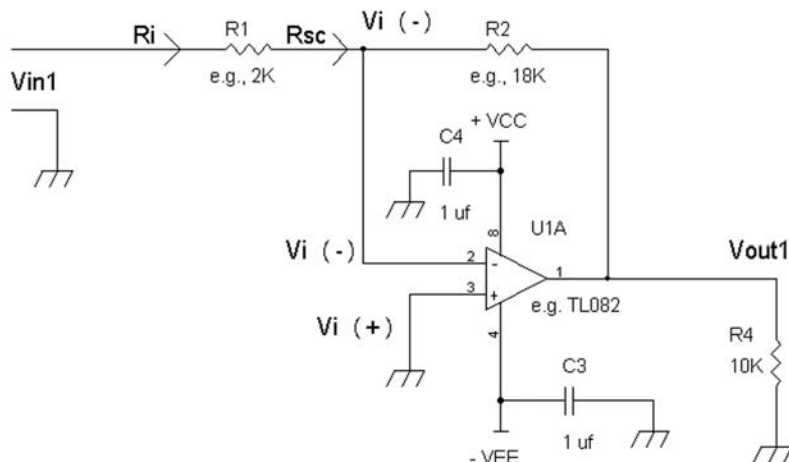

FIGURE 9-23 An inverting gain op amp circuit with plus and minus power supplies.
We now turn to inverting gain op amp circuits where they produce an inverted waveform at the output when compared to the input signal. See Figure 9-23.
An inverting gain op amp circuit also still relies on the voltage applied to the (+) input terminal that defines how the output signal will react to match the (–) input’s voltage to be the same as the (+) input’s voltage. For a simple example, let $R_1 = R_2$ in Figure 9-23. If $V_{in1} = +1$ volt DC, what voltage must V_{out1} be such that at the junction of R_1 and R_2 that is connected to the (–) input matches the voltage at the (+) input terminal? We see that the (+) input terminal is grounded or at 0 volts. R_1 and R_2 form a voltage summing circuit for V_{in1} and V_{out1} . If the resistors R_1 and R_2 are equal in value (e.g., $R_1 = R_2 = 2K\Omega$) and we have + 1 volt DC into R_1 via V_{in1} , it makes sense that the output voltage at V_{out1} should be – 1 volt DC. This way at the junction of R_1 and R_2 we will get 0 volts. The output terminal (e.g., pin 1) is adjusting its voltage such that when summed via R_2 , the voltage at pin 2, the (–) input terminal, is zero volts. This output voltage adjustment via R_2 provides the “virtual” short circuit voltage across the (–) input and (+) input terminals, with a voltage applied to input resistor R_1 .
In terms of the output resistance at V_{out1} , the op amp with the negative feedback resistor $R2$ has an output resistance close to zero ohms. The amplifier in Figure 9-23 amplifies DC and AC voltages at V_{in1} . For example, if $V_{in1} = 1.0$ v DC, then $V_{out1} = -(R2/R1) + 1$ volt DC. For example, if $R2 = 180\text{K}\Omega$ and $R1 = 20\text{K}\Omega$, the output voltage will be: $V_{out1} = -(180\text{K}/20\text{K}) \times 1$ volt DC or $V_{out} = -9$ volts DC. Note that the supply voltage should be at least a few volts higher than 9 volts, such as ± 12 -volt supplies for $+VCC$ and $-VEE$.
For an inverting gain amplifier the AC gain $G = A_v = -R_2/R_1$ and the AC input resistance $R_i = R_1$, with R_1 and R_2 shown in Figures 9-23, 9-24, and 9-26. In all cases the AC output resistance, $R_o \sim 0\Omega$ for the inverting gain op amp circuits.
2. Make sure there is at least a $\geq 0.1 \mu\text{f}$ decoupling capacitor wired or soldered closely to each power pin (e.g., plus supply pin 8 and negative supply pin 4 of an LM1458) and ground. For example, see the $1 \mu\text{f}$ power supply decoupling capacitors C4 and C3 in Figure 9-23. For a single supply circuit you need only one decoupling capacitor since the other power pin is usually grounded. Without power supply decoupling capacitors, the op amps can oscillate or give noisy output signals on their own.